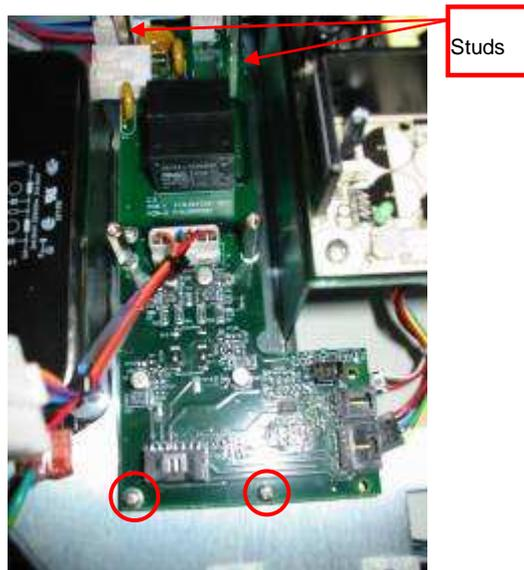

Figure 28: PS Charger – Studs & Screws
6. Remove the AC/DC Splitter screws and the 2 back studs (Figure 28).